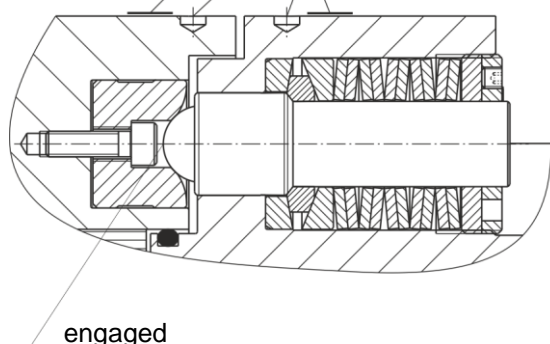

Fig. 3
Both of the yellow guideline signs for regaining the synchronous position (due to balance quality) on the outer diameters of the hub (1) and the pressure flange (7) must align with each other (Fig. 3).